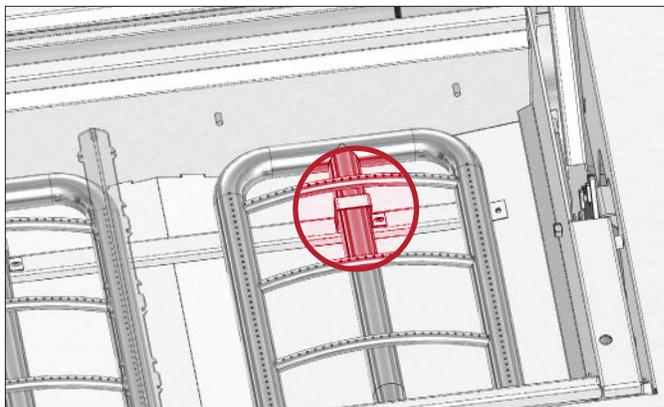

Fig. 1. Installed burner retention bracket.
2. Remove the retention bracket. **See fig. 1.**